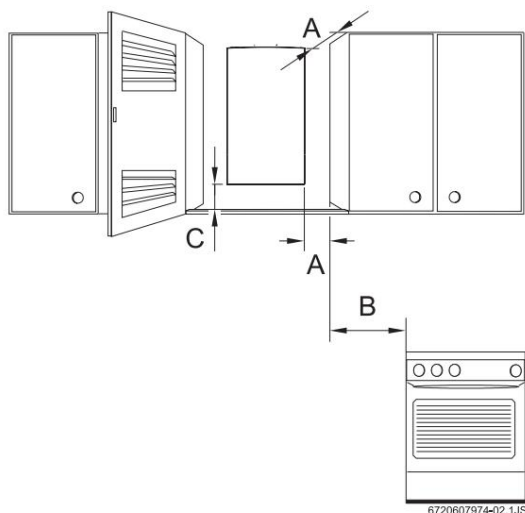

FIG. 7 Minimum distances
- B Ensure unobstructed access to the works installation and maintenance - for this, observe the information regarding the minimum distances specified in Fig. 7.